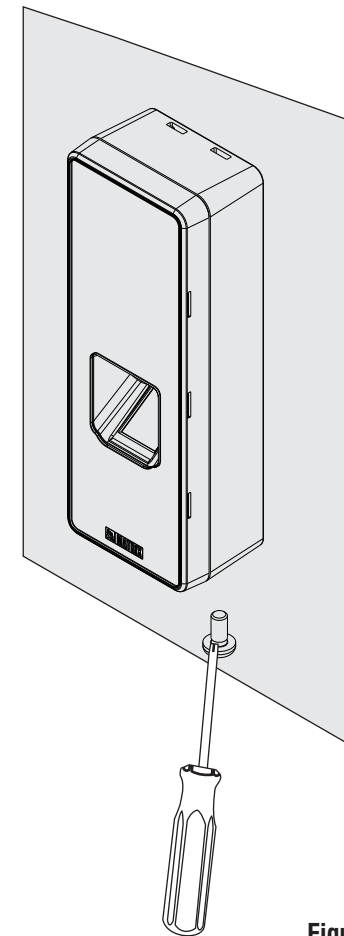

Figure 17
3. Tighten the screw with 2 kgf-cm torque as shown in **Figure 17**.